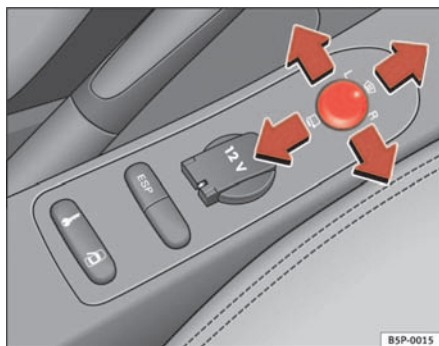

Fig. 91 Exterior mirror control
1. Turn knob ⇒ fig. 91 to position **L (left exterior mirror)**.
- Turn the knob forwards to the central position ⇒ page 123, fig. 91 so that the heated rear view mirrors heat up and the heated windscreen\* in the wiper blade rest area is operational. ⇒ page 119
- Turn the control ⇒ page 123, fig. 91 to position to fold in the exterior mirrors. You should always fold in the exterior mirrors if you are driving through an automatic car wash. This will help prevent damage.